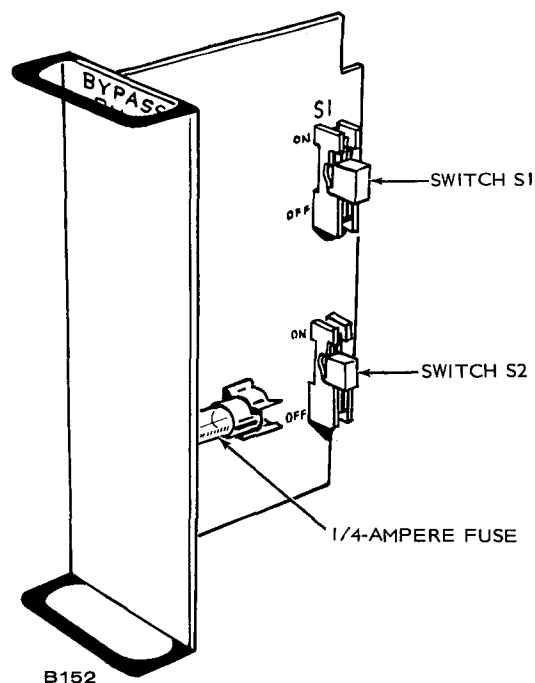

FIGURE 22. BYPASS PLUG MODULE
8. Set switches S1 and S2 on the bypass module to the correct position (instructions on bypass module printed circuit board) for the particular bypass and insert the module. See Figure 22.